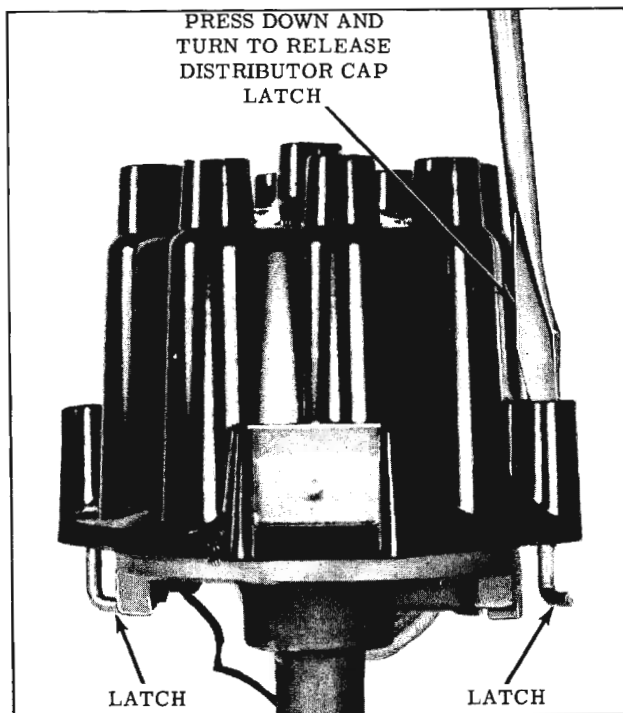

Fig. 14-122 Distributor Cap Removal
1. Remove distributor cap by pressing down on and turning latch as shown in Fig. 14-122.
2. Remove the distributor cap as shown in Fig. 14-122.